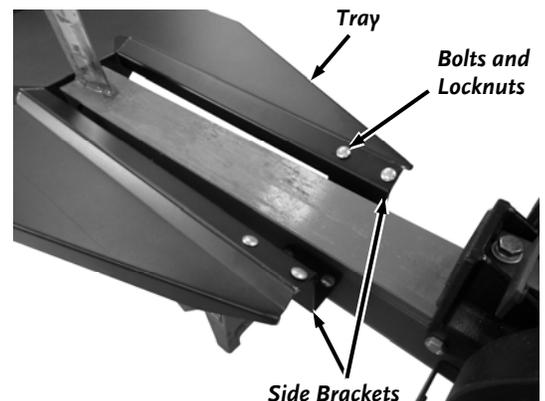

Figure 10
4. For easier alignment in the following step, slightly loosen the Side Bracket Hardware using a 9/16" Wrench (**Figure 10**).